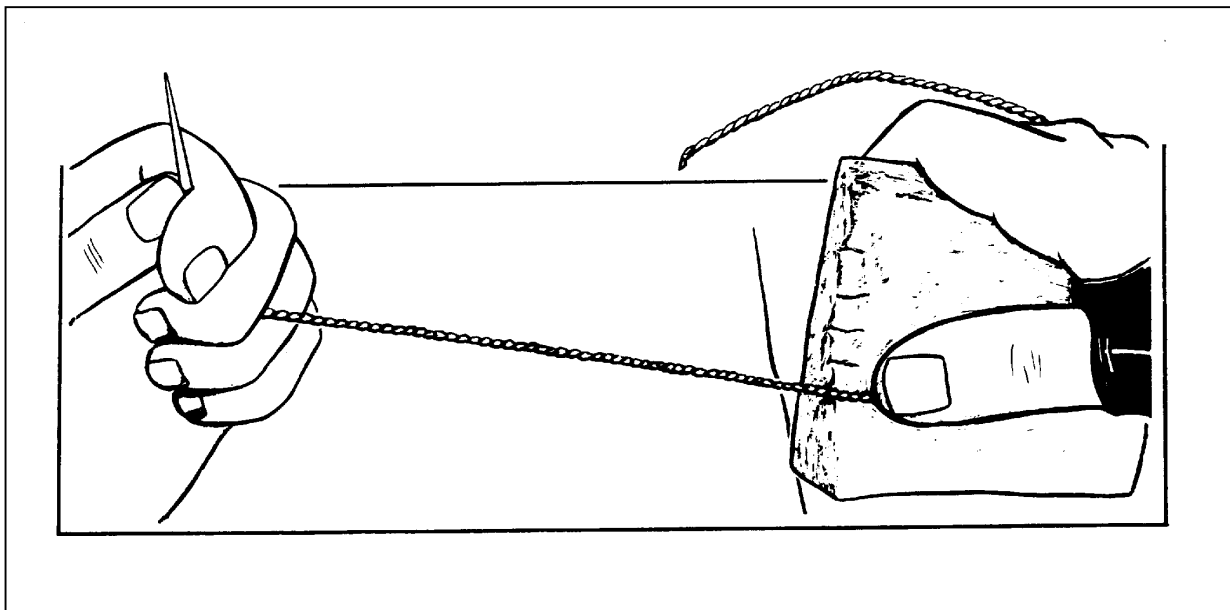
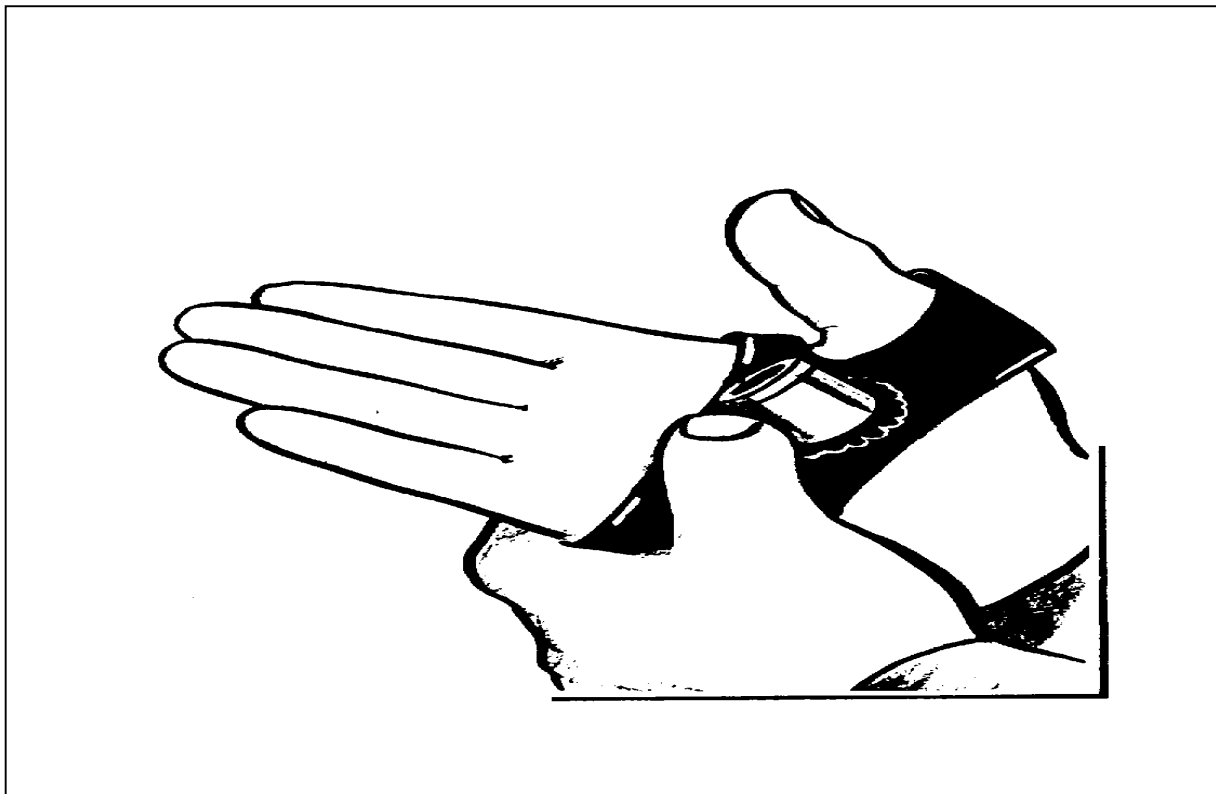

Figure 7-4. Rewaxing thread
Figure 7-5. Putting on a sewing palm
d. Rewaxing the Thread. The fabric repair specialist rewaxes the thread for added protection. To rewire the thread (Figure 7-4)--
- (1) Hold the thread near the needle firmly with one hand.
- (2) Grasp a section of thread with the fingertips of the other hand, and twist the strands together.
- (3) Rub this section across the surface of the beeswax.
- (4) Repeat these steps until the entire length of the thread has been rewaxed.
e. Putting on the Sewing Palm. The fabric repair specialist wears a sewing palm to protect the hand while sewing with the sailmaker's needle. The palm has a metal inset which is used to push the needle through canvas or webbing. To put on a sewing palm (Figure 7-5)--
- (1) Grasp the sewing palm with the left hand so that the smaller (thumb) opening is on the right and the metal inset is facing up.
- (2) Turn the right hand so that the palm is facing up.
- (3) Slip the four fingers of the right hand through the larger opening, and slip the thumb through the smaller opening.